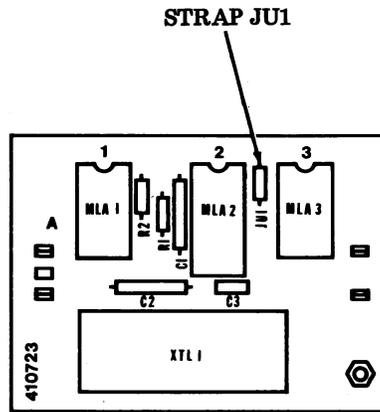

Fig. 6—410723 Clock Circuit Card
3.08 Operating speed (Option 79) may be programmed to conform to the operating speed of the associated terminal by cutting a strap (if necessary) on the 410723 clock card as shown in Fig. 6 or by setting option switches on 410732 as shown in Option Chart.